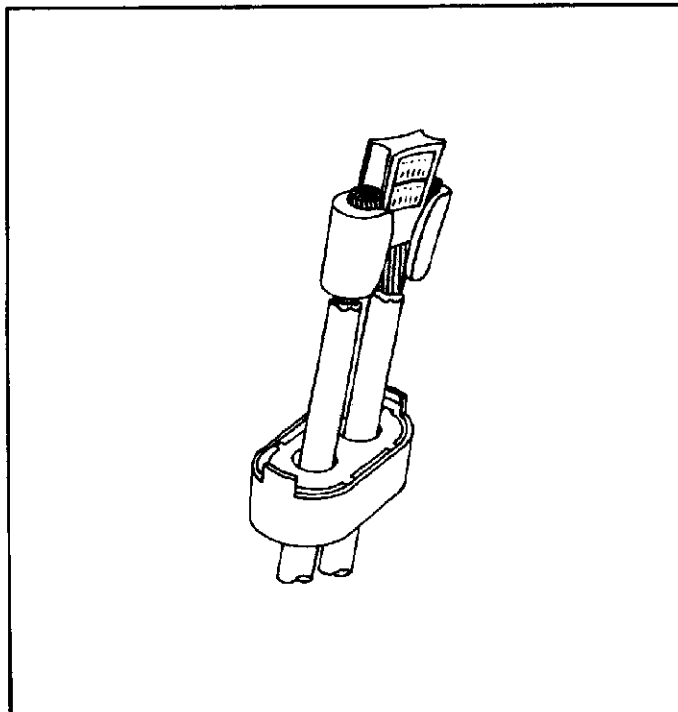

Figure 7
- (e) Center "C" member of AMPACT tap on stripped conductors and insert wedge, as shown in Figure 7.